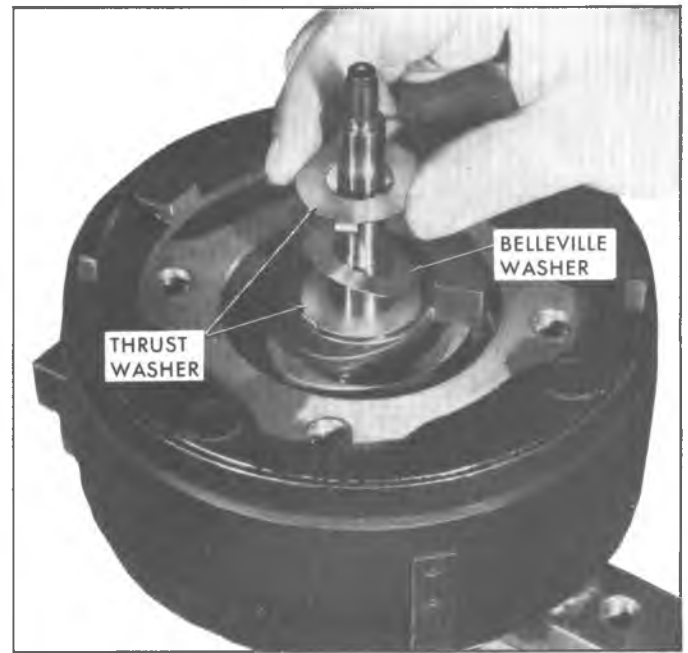

Fig. 20—Replacing Thrust and Belleville Washers
2. Install a new thrust washer on compressor shaft with thrust washer tang pointing up (Fig. 20).
3. Install the new belleville washer on shaft with the high center of the washer up (Fig. 20).
4. Install the remaining thrust washer on shaft with the tang pointing down (Fig. 20).